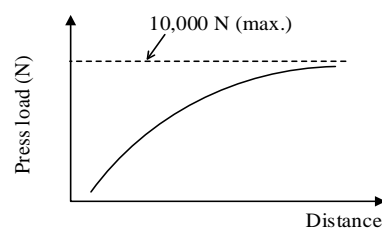

Figure 10 Maximum Press Load
- Maximum press load:  $\leq 10,000 \text{ N}$  (See Figure 10)